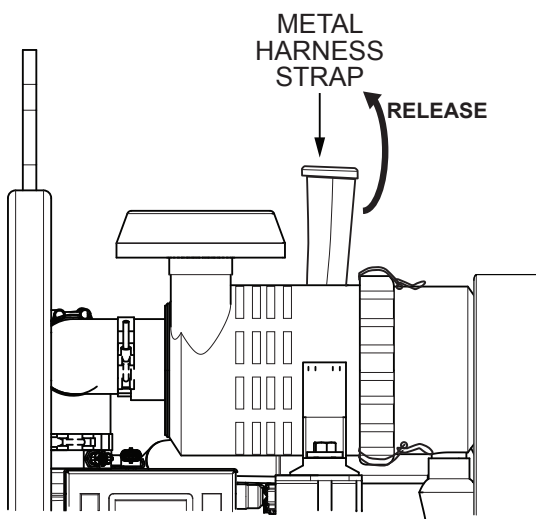

Figure 34. Releasing Metal Harness Strap
2. Release the metal harness strap that holds the air filter in place (Figure 34).